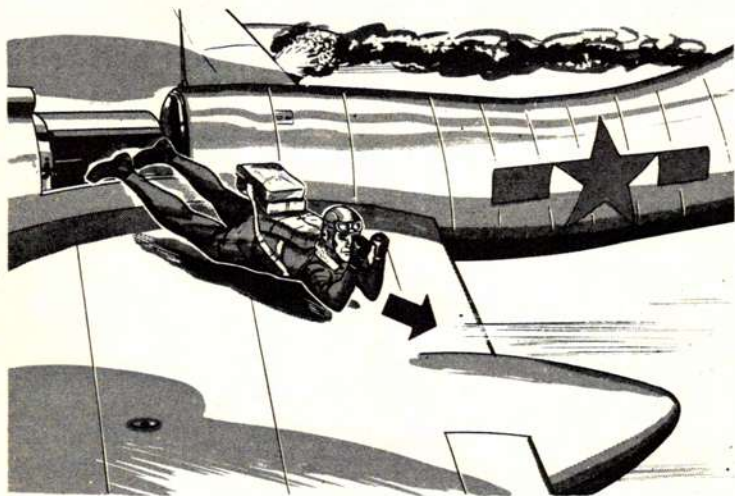

Figure 6-4-2. Pilot's arms are in position to shield his face.
(5) Dive straight out or slightly forward. As you do, place your arms in position to shield your face (fig 6-4-2). This affords protection in case you should hit parts of the plane.
(6) Pull ripcord when clear of plane.